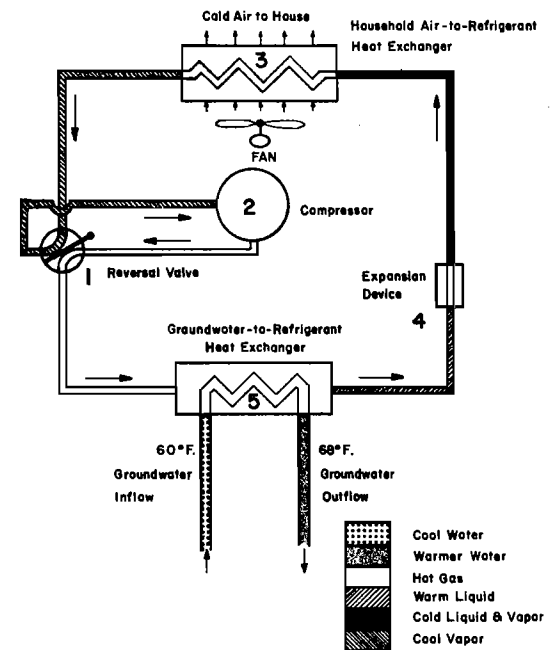

Figure 3. Cooling mode water-to-air heat pump.
When the heat pump is operating in the cooling mode, as in Figure 3, the position of valve (1) is reversed. The compressor pumps hot refrigerant to the heat exchanger (5) where the gas condenses to a warm liquid giving up heat to the groundwater. The warm liquid flows through the expansion device where the pressure decreases causing the liquid to expand into a chilled gas. Hot air blowing over the heat exchanger (3) gives up heat to the refrigerant, and cool air is blown into the house. The gaseous refrigerant is directed by valve (1) into the compressor, and the cycle is repeated.